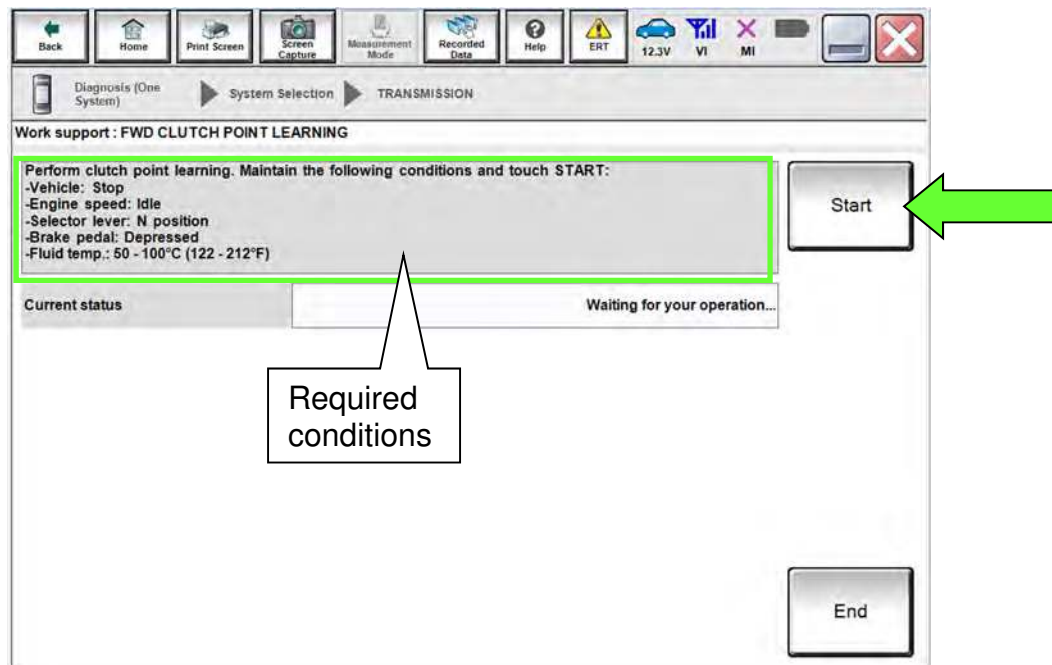

Figure 206
- Confirm that all of the conditions indicated in Figure 206 are being met.
196. While maintaining all conditions shown in Figure 206 and the Current status indicates “EXECUTING”, shift the CVT into **R** and then wait until the Current status indicates COMPLETED.